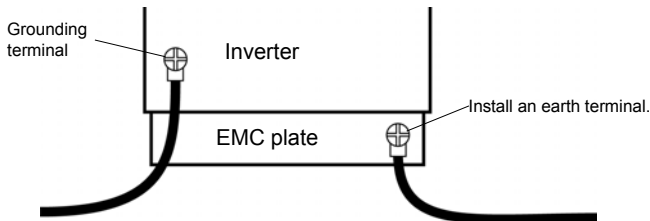

Fig. 4
- (1) Install the inverter in a cabinet and ground the inverter enclosure. When doing maintenance, be extremely careful not to put your fingers into the inverter through a wiring hole and touch a charged part, which may occur depending on the model and capacity of the inverter used.
- (2) Do not connect two or more wires to the main circuit earth terminal of the inverter. If necessary, install an additional earth terminal on the EMC plate on which the inverter is installed and connect another cable to it. (Refer to Fig. 4.) See the table of section 10.1.
(3) Install a non-fuse circuit breaker on the input side of the inverter.